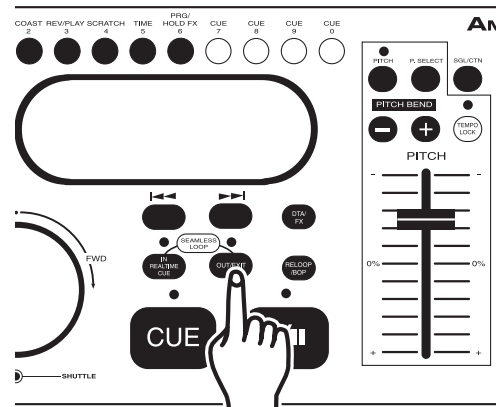

Figure 25
EXITING A LOOP - To exit a SEAMLESS LOOP, press the OUT/EXIT BUTTON (28). The IN REAL-TIME CUE BUTTON (26) and OUT/EXIT BUTTON (28) LEDs will remain on, but will stop flashing. Music playback will resume normal play (Figure 25). The IN REAL-TIME CUE BUTTON (26) and OUT/EXIT BUTTON (28) LEDs will remain on to remind you that a loop is stored in memory.
- 1) Press the OUT/EXIT BUTTON (28) to return to normal play from the loops cue point (Figure 25). This will disengage the SEAMLESS LOOP and allows you to edit the loops ending point.
- 2) Press the OUT/EXIT BUTTON (28) again when you reach your new ending point (Figure 25).
- FOR A SHORTER LOOP: Press the OUT/EXIT BUTTON (28) at sooner point in the track (Figure 25).
- FOR LONGER LOOP: Press the OUT/EXIT BUTTON (28) at later point in the track (Figure 25).